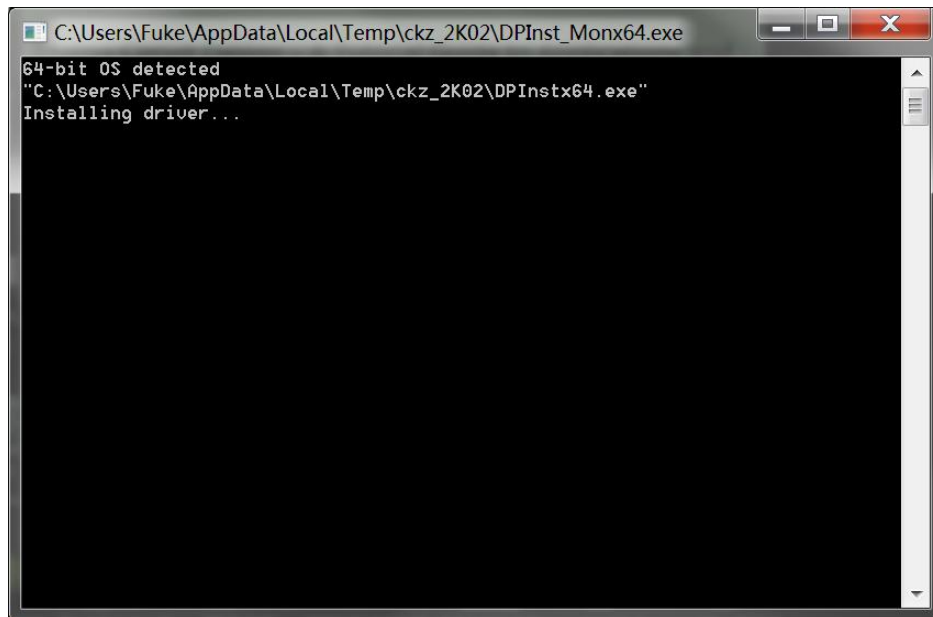

Fig8. USB driver installing interface
b) Double click "FT232\_drive.exe" and then you will see the Fig.8 which means the driver is installing.